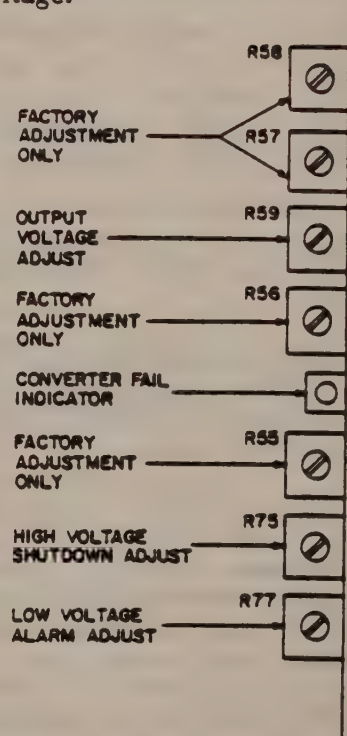

Figure 4-1. Adjustment Potentiometer Locations
- Locate potentiometer R59 on the control circuit card as shown in Figure 4-1. Adjust this potentiometer clockwise for increased output voltage or counterclockwise for decreased output voltage.
- b) Adjust potentiometer R75, shown in Figure 4-1, fully clockwise.
- c) Note the output voltage value indicated by the DMM. Adjust potentiometer R59, shown in Figure 4-1, for the output voltage value which equals the desired shutdown level.
- d) Adjust potentiometer R75, shown in Figure 4-1, slowly counterclockwise until the INPUT circuit breaker trips open.
- b) Adjust potentiometer R77, shown in Figure 4-1, fully counterclockwise.
- c) Note the output voltage value indicated by the DMM. Adjust potentiometer R59, shown in Figure 4-1, for the output voltage value which equals the desired low voltage alarm value.
- d) Adjust potentiometer R77, shown in Figure 4-1, slowly clockwise until the CONVERTER FAIL indicator illuminates.